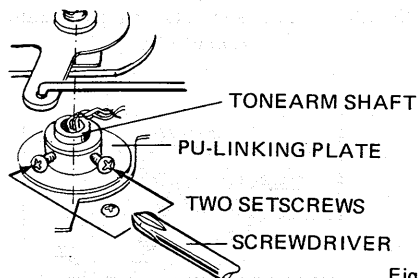

Fig. 5
2. Refer to Fig. 5. Loosen the two setscrews. Adjust PU-linking plate so that fine adjustment screw is centered in hole. Arm must of course be in rest position.